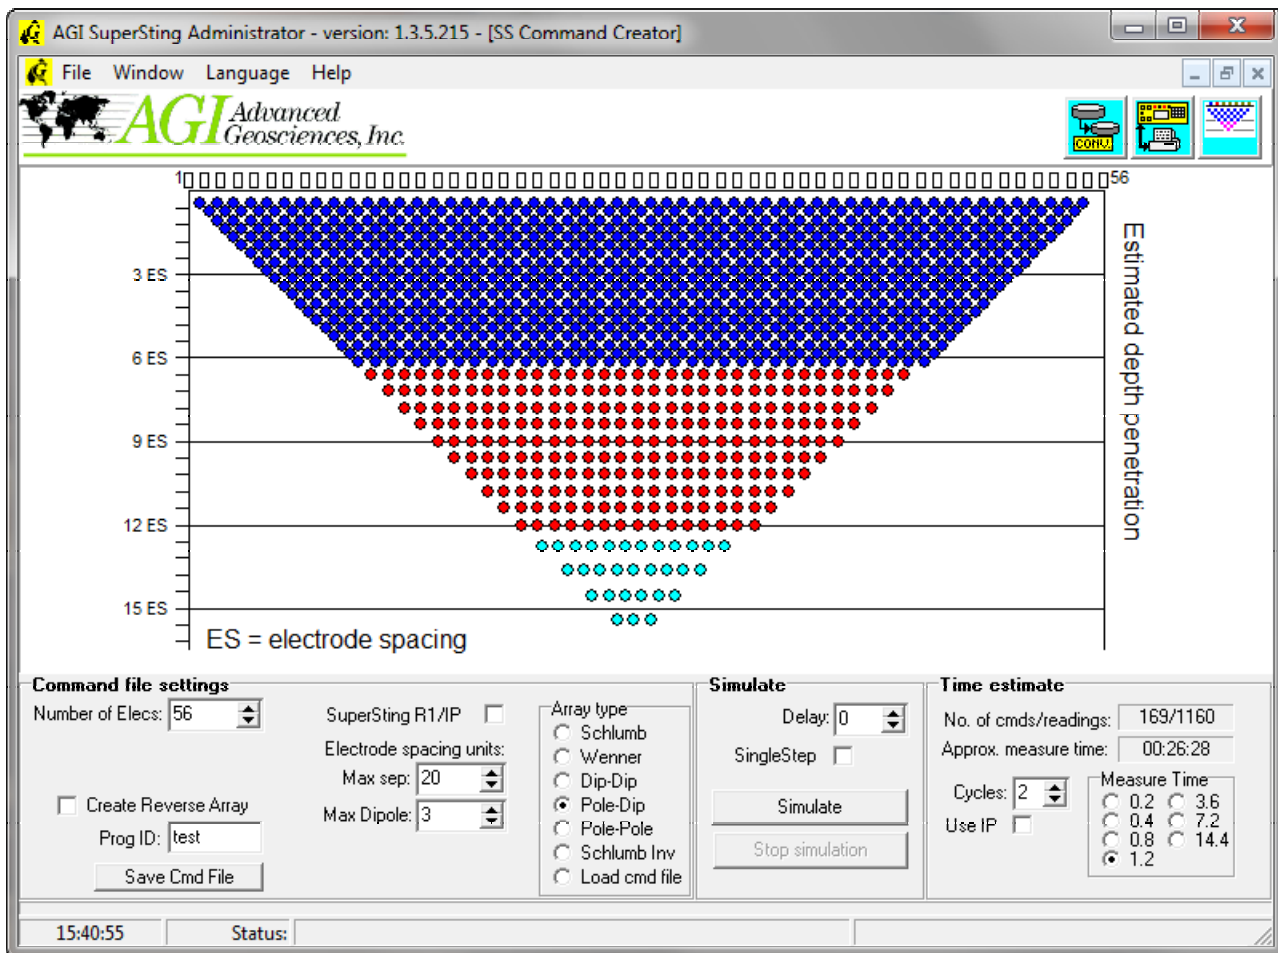

Figure 4: Creating a command file using the Administrator software
5. The depth scale is estimated based on an electrode spacing of one unit. To get an estimate of the depth penetration for your survey, multiply the planned electrode spacing by the appropriate scalar shown on the left in Figure 4 (For example, 3 ES means 3 times the planned electrode spacing).